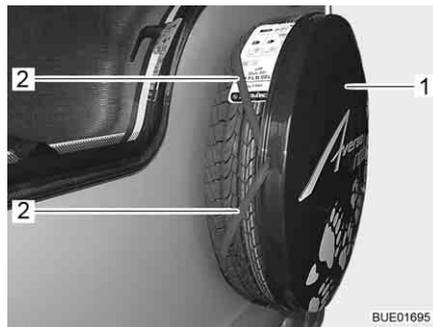

Fig. 226 Cover plate
- Remove cover plate (Fig. 226,1). Do this by removing the rubber expanders (Fig. 226,2) from the tyre.